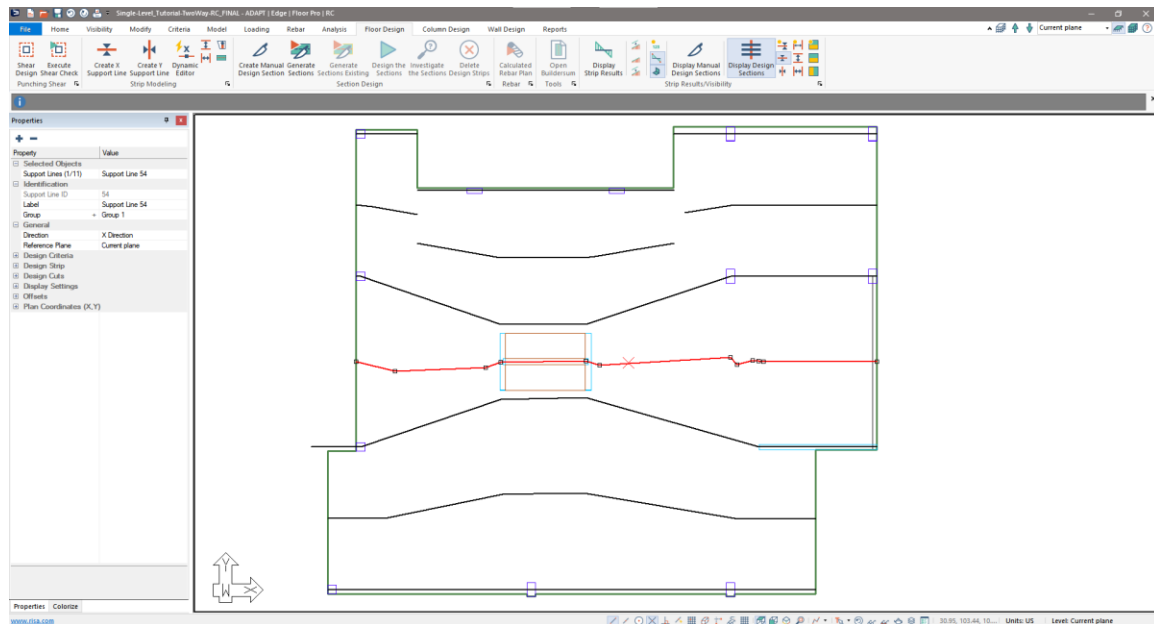

Figure 6-22
- Click on the middle strip to select it. The users screen should now appear similar to **FIGURE 6-22**.